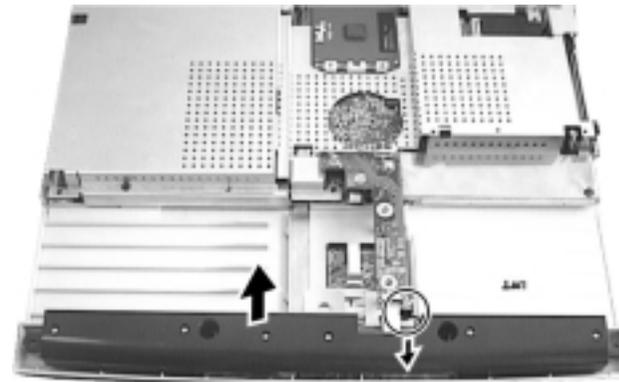

Figure 5-24
7. Lift up the speaker assembly and disconnect the cable. (figure 5-24)